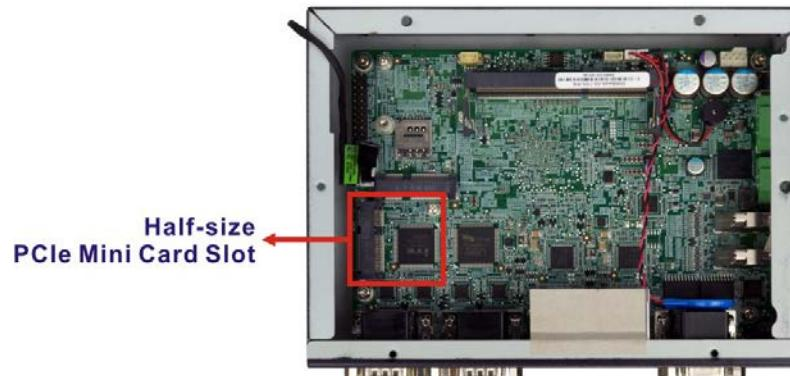

Figure 3-14: WLAN PCIe Mini Card Slot Location
Step 3: Locate the half-size PCIe Mini slot (**Figure 3-14**).